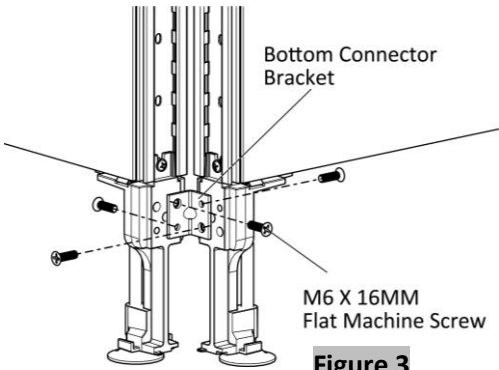

Figure 3
- Securely fasten the bottom corner bracket into the panel legs with four M6 X 16MM Flat Machine Screws, (Figure 3).